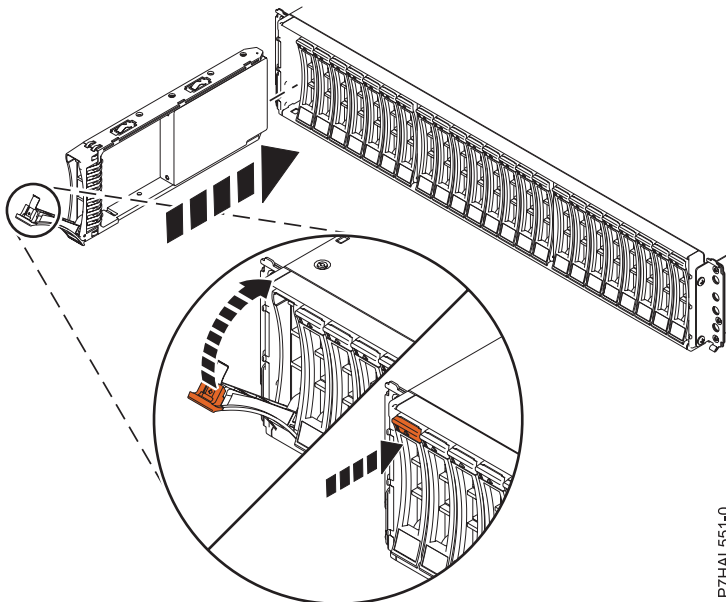

Figure 7. Installing the disk drive in the 58/87 disk drive enclosure
1. With the handle in the unlocked position, see Figure 7 on page 14, support the bottom of the drive as you align it with the guide rails in the expansion unit.